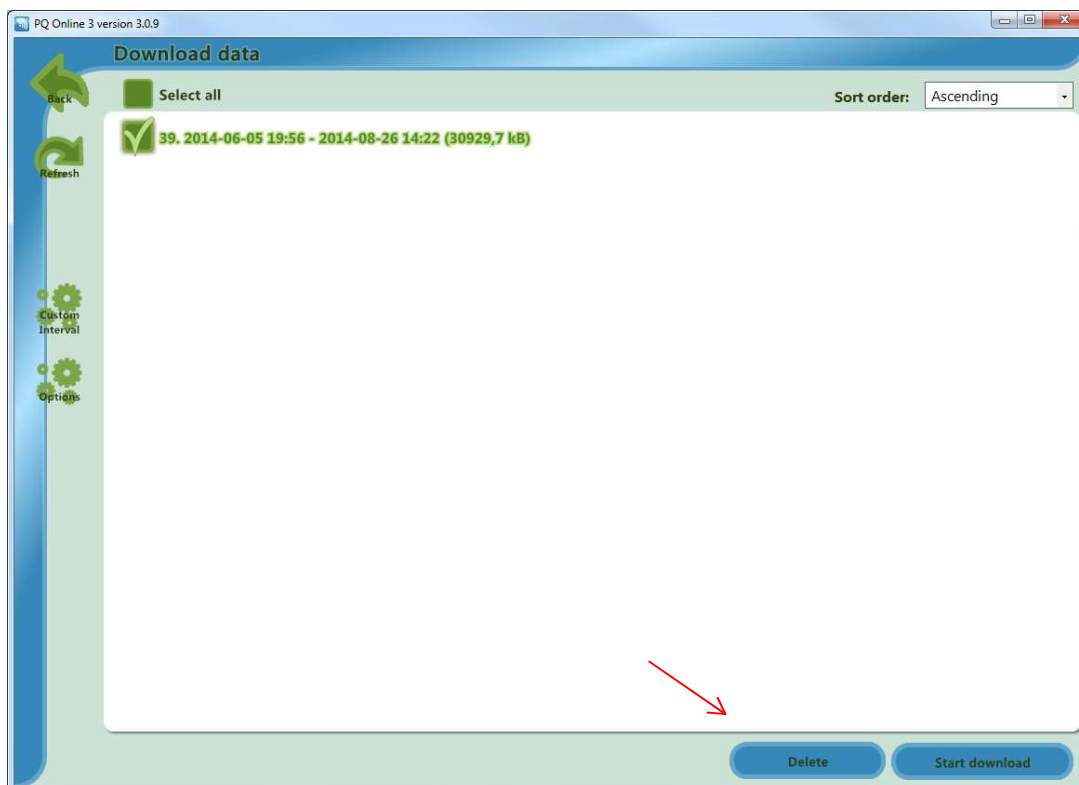

Figure 61
2. Choose the desired measure interval measured in date to date and the desired save location (see Figure 61). To simplify choose a folder to save all your measurement files, make subfolders to keep track of your measurement files. The default path chosen by PQ Online is: *C:\users\[your windows user]\Documents\Unipower\Downloaded Data*